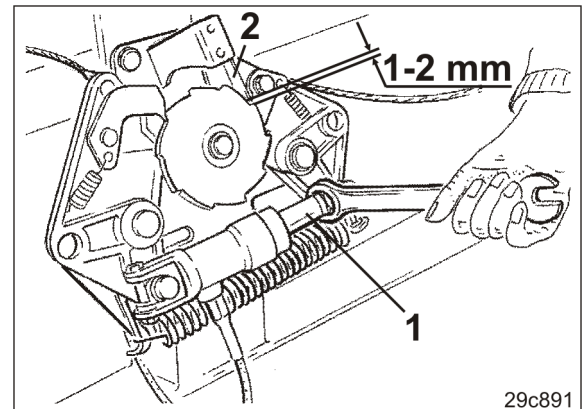

Fig. 237
3. Rotate the piston (Fig. 237/1) of the hydraulic cylinder with a flat spanner until the leaf spring (Fig. 237/2) on the marker changeover audibly locks into place and a gap of 1 to 2 mm has been set between the leaf spring and the tooth.